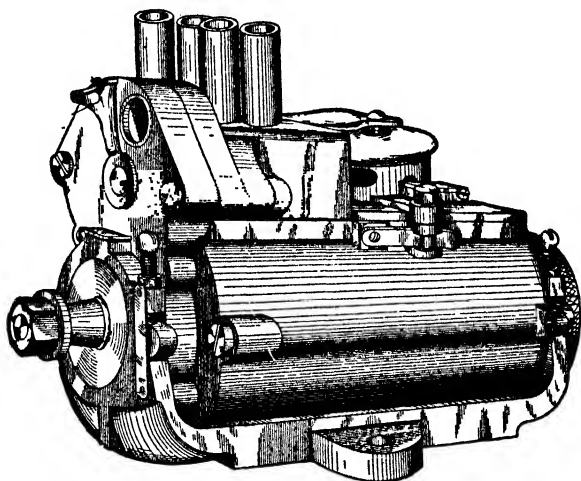
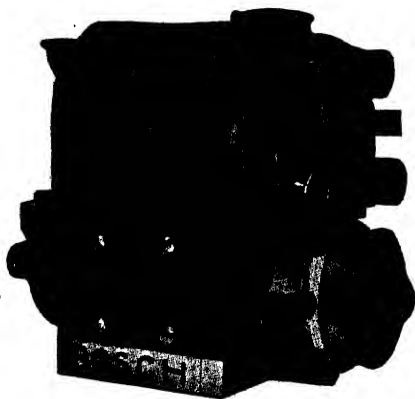
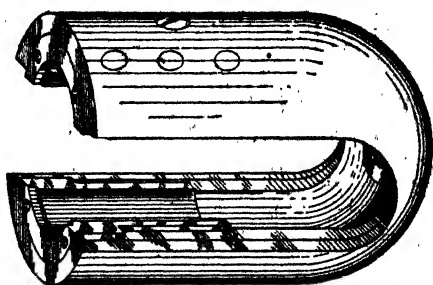

Fig. 96. Mea Magneto in Trunnion Mounting
Fig. 97. Bosch Enclosed Type Magneto
Fig. 99. Bell-Shaped Magnets of Mea Magneto
*Mea Method of Advancing Spark.* Doubtless the most ingenious method of taking care of the necessity for advancing the spark has been developed in the Mea magneto, shown in Fig. 96. Instead of being of horseshoe form, as in the Bosch and Nilmeliior magnetos, shown in Figs. 97 and 98, it is bell-shaped, as shown in Fig. 99. The entire magneto is carried in a trunnion mounting so that the field magnets may be turned to the same extent that the contact breaker is moved to give the necessary advance, thus insuring that the circuit will be broken with the armature in the same relative